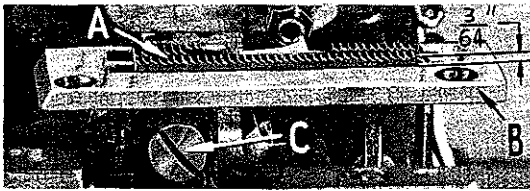
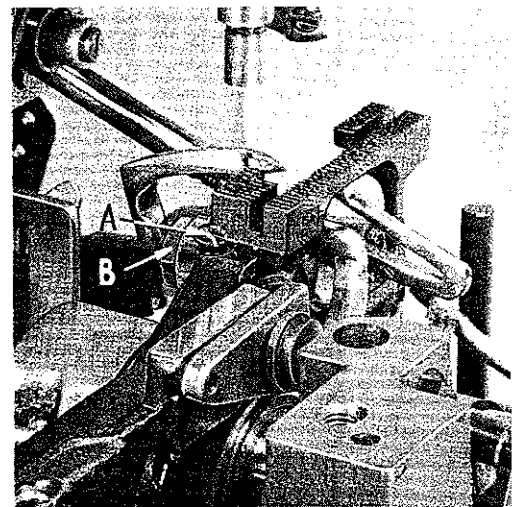
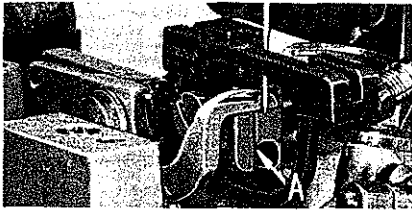

Fig. 7
Fig. 8
Fig. 9
Set the feed dog (A, Fig. 7) in the throat plate (B) so there is equal clearance on all sides and that the tips of the teeth are parallel with and project  $\frac{3}{64}$  inch above the throat plate at high point of travel. Adjust the supporting screw (A, Fig. 8) under the feed dog to maintain this setting. Screw (C, Fig. 7) is used to
If feed dog teeth are not parallel with the throat plate, loosen nut (B, Fig. 8) and turn screw (A, Fig. 9) clockwise to lower the front teeth, and counterclockwise to raise the front teeth. Retighten nut when feed dog is set properly.